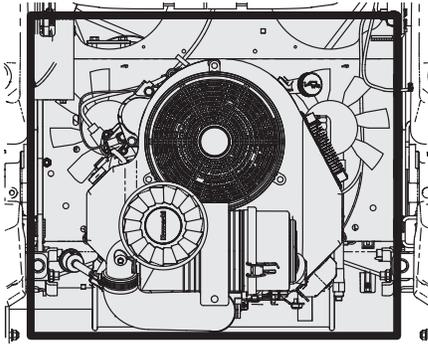

Figure 28
- Clean around the exhaust manifold, fuses, all wiring and harnesses, muffler pipe, muffler shield, engine intake screens and cooling fins, etc (Figure 28).